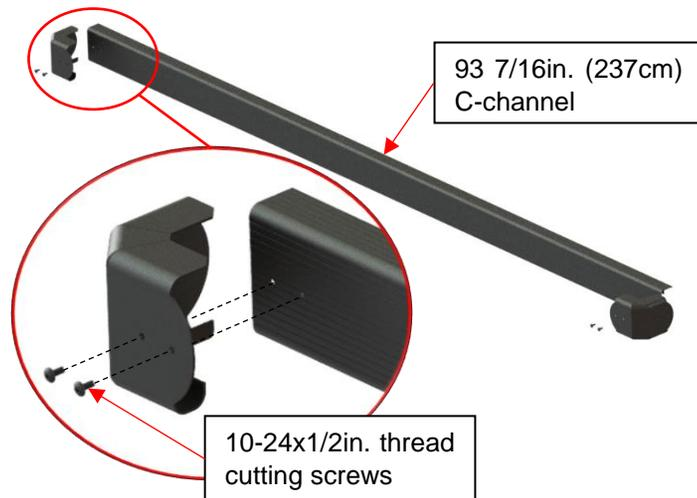

Figure 52
- 9) Pre-assemble two corner brackets on the 93 7/16in. (237cm) long C-channels using the 10-24x1/2in. thread cutting screws. (Figure 52) Repeat for the second C-channel